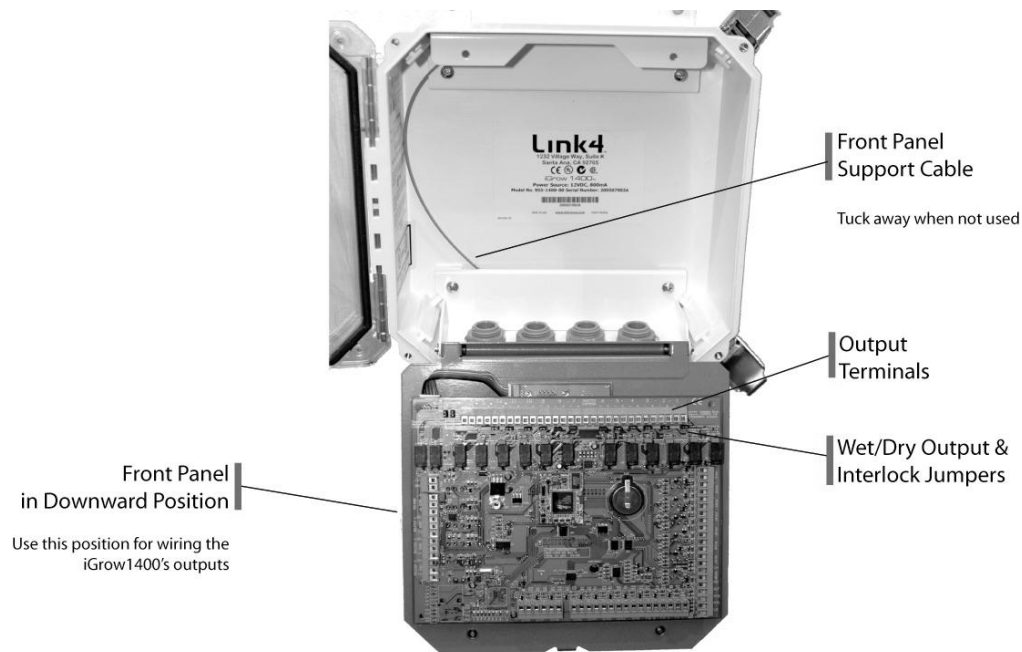
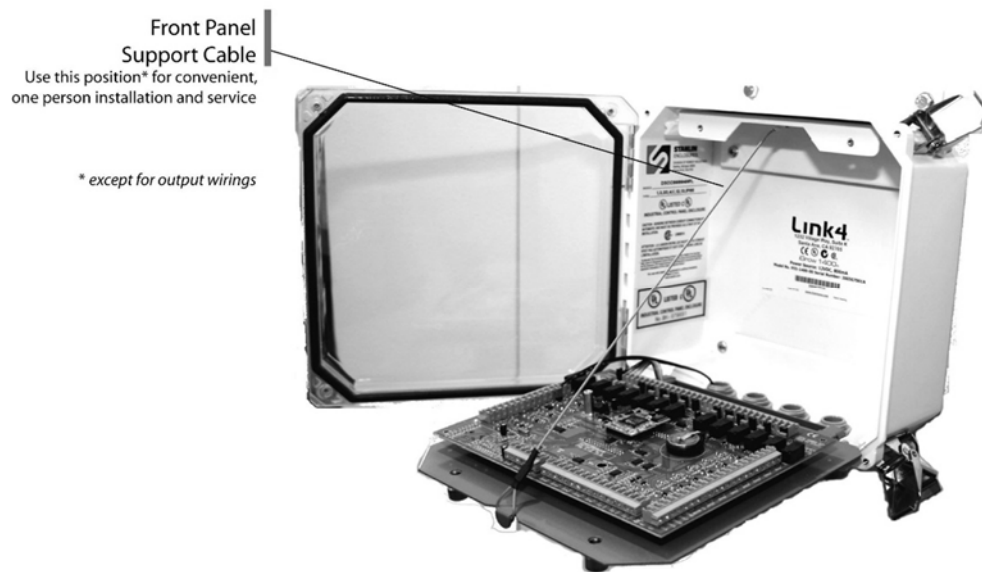

Figure 4.4 Full Open View of iGrow 1200™
Figure 4.5 Front Panel, in the 90 deg. position
3. The front panel has a unique design that allows it to swing downward. It can be stopped at two positions: fully downward 180 deg or at 90 deg. using the front panel support cable. This cable should always be tucked away when it is not being used. The hinged design allows for easy accessibility to the inside of the iGrow 1200™ for service and installation procedures and a kink free cable management when the panel is closed (see Figure 4.4 and Figure 4.5).
4. Lower the front panel to the 90 deg position by using the tucked away front panel support cable. See figure 4.5.
1. First, open up the front panel to the 90 deg. position, as shown in Figure 4.5. Make sure the cable supports the front panel securely.
1. Open up the front panel to the 90 deg. position, as shown in Figure 4.5. Make sure the cable supports the front panel securely.